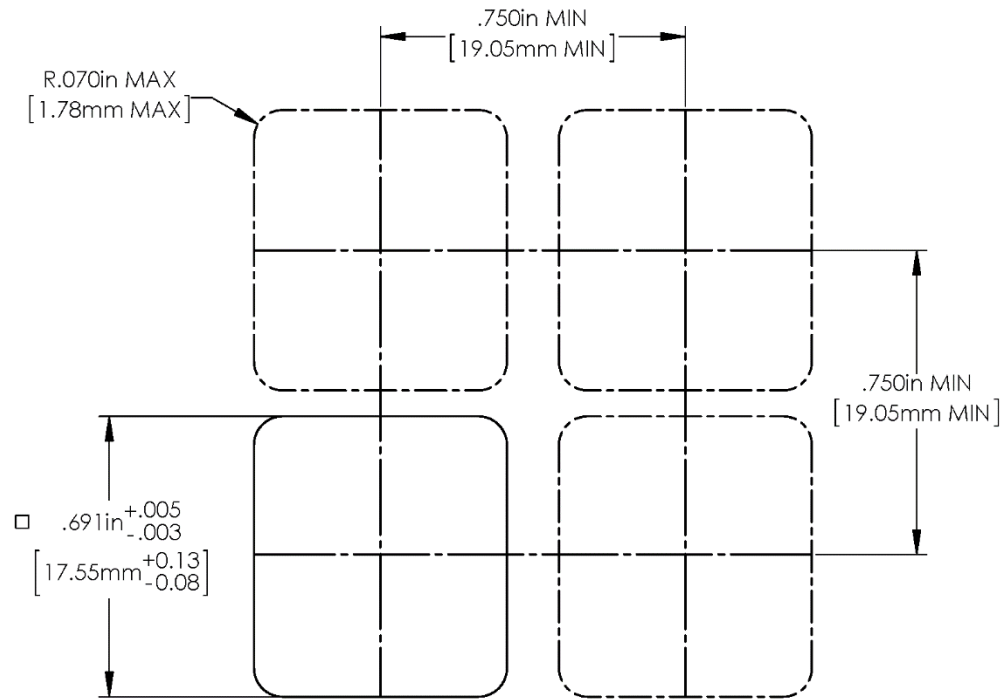
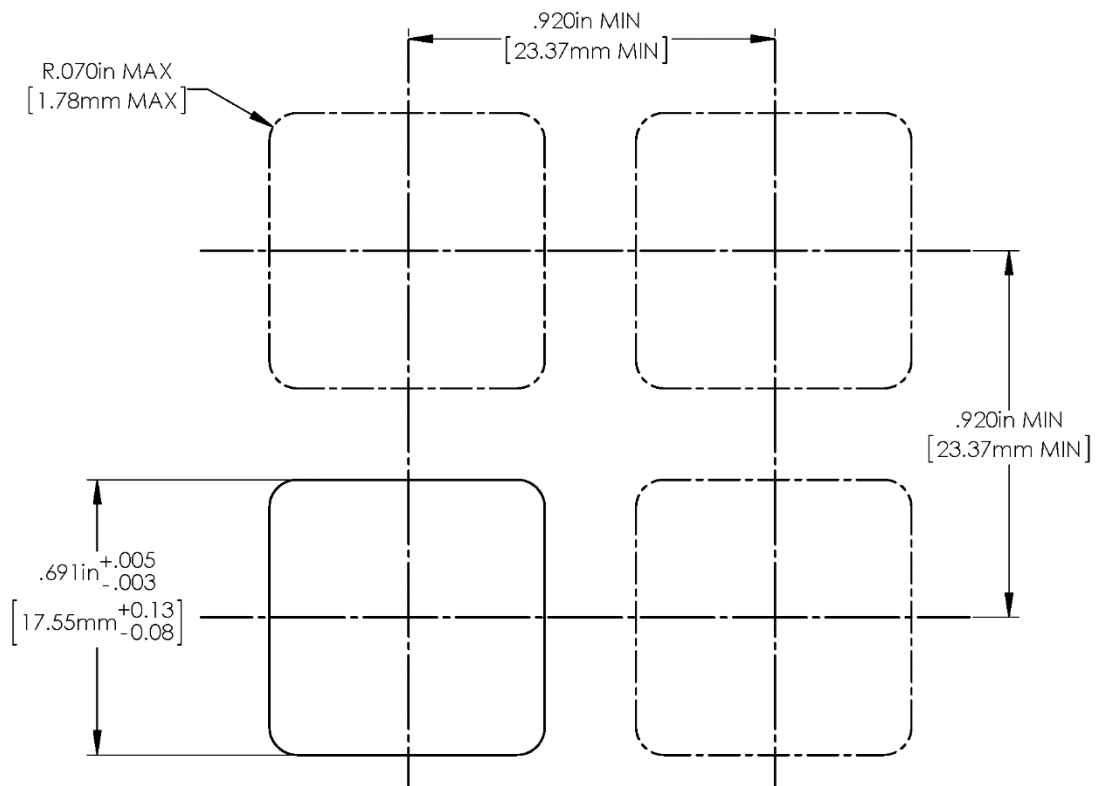

Figure 27: Matrix Mount for Type I & III
Figure 28: Matrix Mount for Type II & IV
*See Figure 27: Matrix Mount for Type I & III and Figure 28: Matrix Mount for Type II & IV for flushed and extended mounts details.